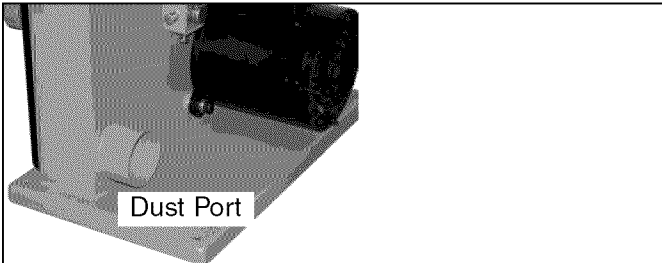

Figure 10 - Dust Port
- The band saw has a 2½" dust port included (see Figure 10).